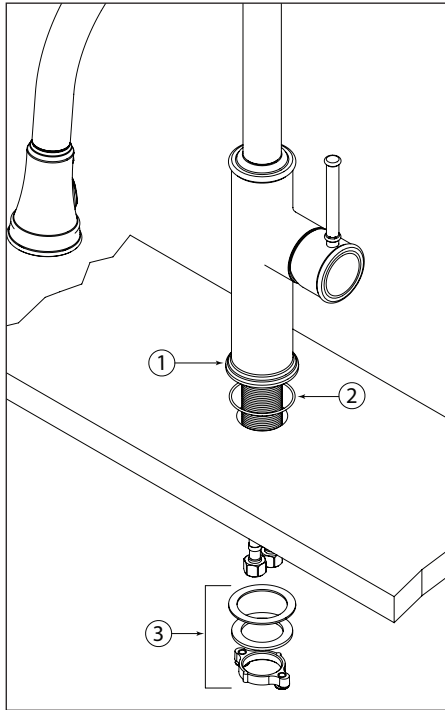

Fig.1
Insert the flexible hoses through the sink or countertop hole. Ensure to include metal ring (1) and rubber washer (2). Align faucet properly and secure firmly with mounting kit (3) (see Fig.1).